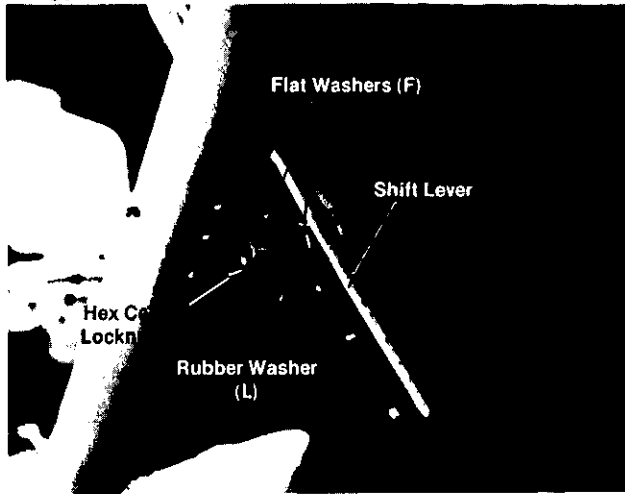

FIGURE 9.
- A. Place the top hole of the shift lever over weld bolt on handle panel. See figure 9.
- B. Place one flat washer (F), rubber washer (L) and the other flat washer (F) over weld bolt on handle panel. See figure 9.
C. Secure with hex center locknut (G). See figure 9.